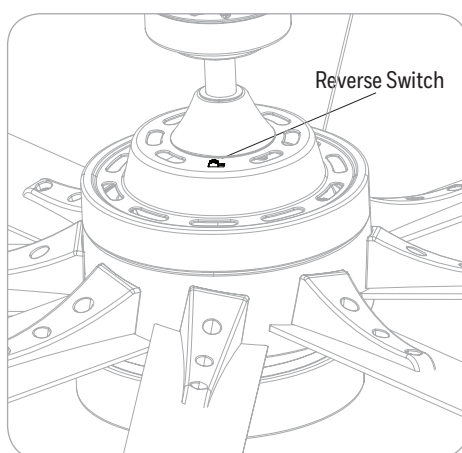

Figure 6.2
2. Use the reverse switch located on the top of the motor assembly to optimize your fan for seasonal performance. **In warmer weather**, push the reverse switch left, which will result in downward airflow creating a wind chill effect. **In cooler weather**, push the reverse switch right and the fan to low, which will result in upward airflow that can help move stagnant, hot air off the ceiling area (Figure 6.2).